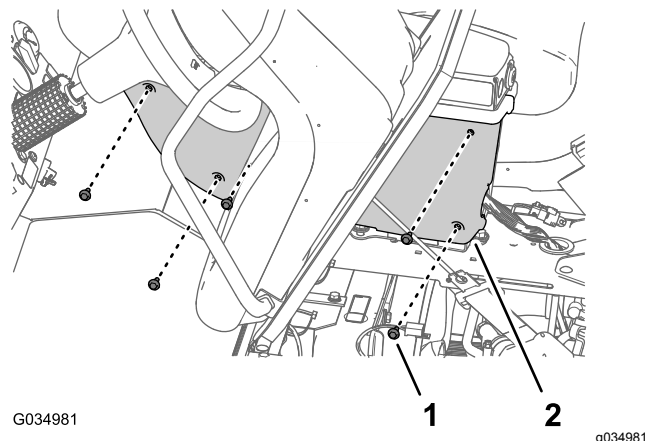

Figure 112
2. Remove the 5 flange-head bolts (1/4 x 3/4 inch) that secure the cover at the left side of the center console (Figure 112).